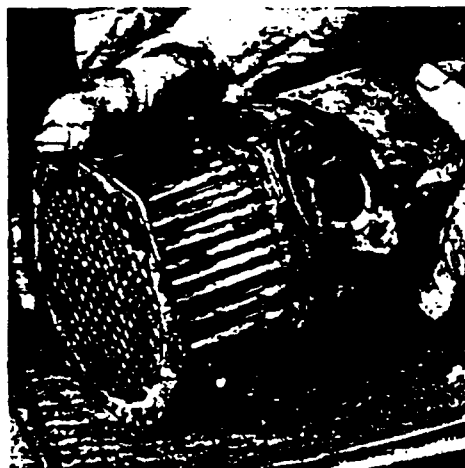

Figure 2-289. Removing Bundle
2. Remove bundle from housing. See Figure 2-289.